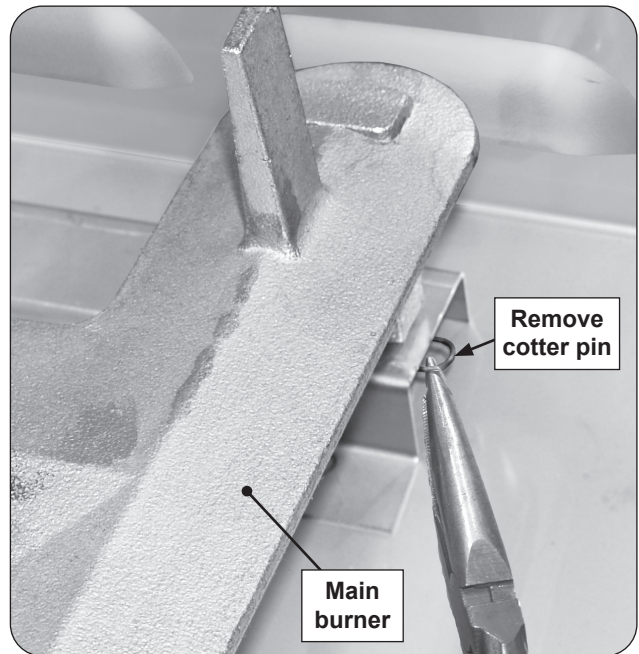

Fig. 38-1 Main burner removal
2. Locate and remove the cotter pin from the left or right rear burner anchoring peg by pulling it straight out of the cotter pin hole using fingers or needle-nose pliers. See Fig. 38-1.